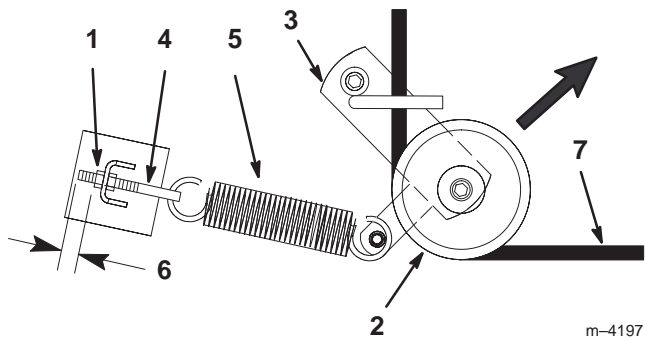
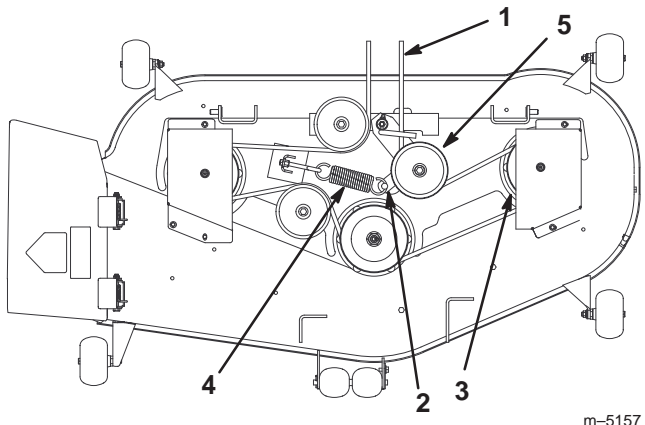

Figure 44
Figure 45
6. Pull the idler pulley in the direction shown in Figure 44 and roll the belt off of the pulleys.
7. Route the new belt through the idler arm and around the idler pulley (Fig. 44).
8. Pull the idler pulley in the direction shown in Figure 44 and route the belt onto the other pulleys (Fig. 45).
Note: Check to ensure that the length of exposed thread on the spring eye bolt is 1/8 inch (3 mm) (Fig. 44).